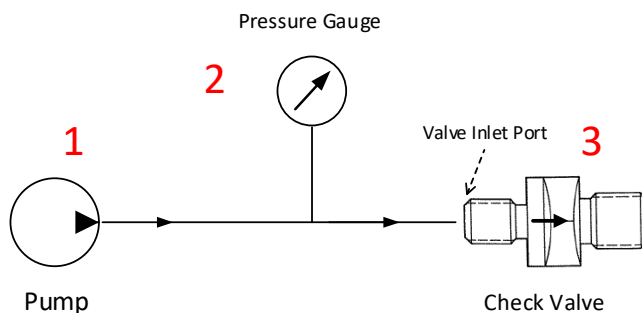

Figure 6: test setup Test Title 1 - 3(3)
(2) Flushing
(3) Cracking Pressure
- Test set up in accordance to Figure 6.
(5) Proof Pressure Test:
- Test set up in accordance to test setup Test Title 1 - 3(3)Figure 6